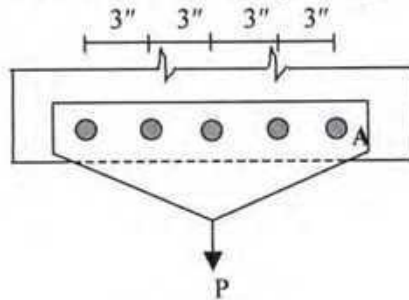

Fig. 10
Q11. In the gusset plate connection shown in Fig.10, each rivet has a X-sectional area of 0.50 in^2 . The allowable load P was designed for a shearing stress of 10 ksi . What will be the maximum shearing stress in the rivets if the rivet at A is improperly driven so that it cannot carry any load? (10)